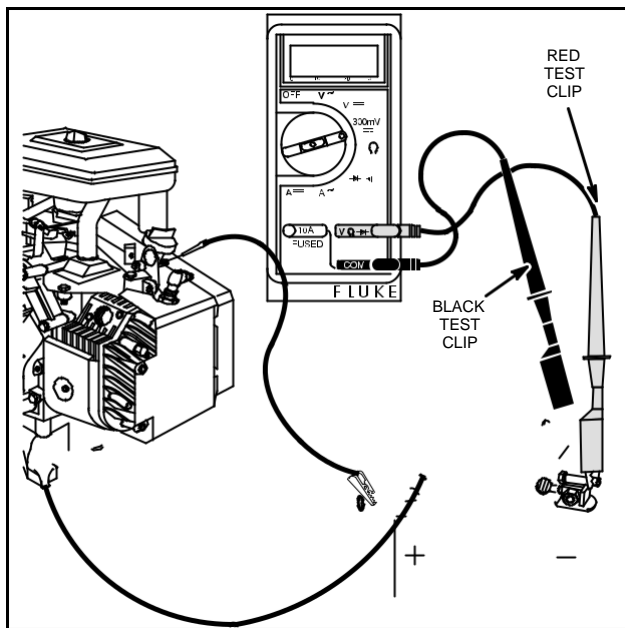

Fig. 26 – Testing Regulator-Rectifier 16 Amp System With DC Shunt
The DC Shunt **must** be installed on the **negative** (-) terminal of the battery, Fig. 26. All connections must be clean and tight for correct amperage readings.
2. Insert RED test lead into  $V \Omega \rightarrow$  receptacle in meter and connect to RED post terminal on shunt, Fig. 26.